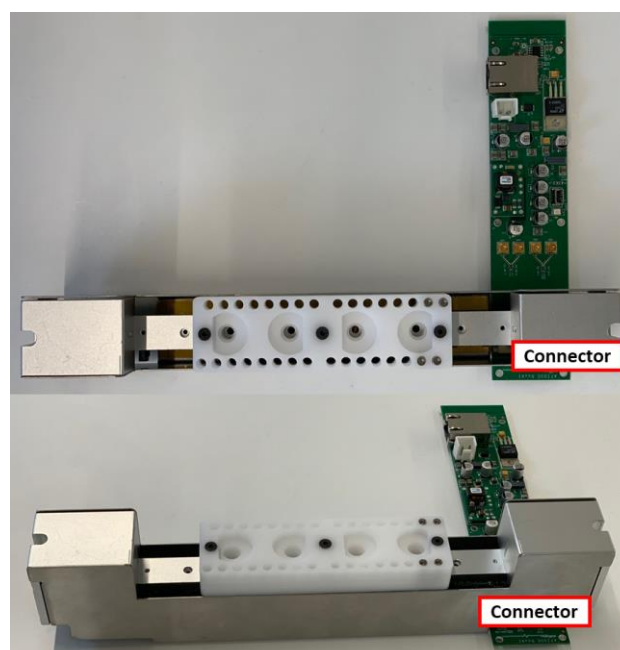

Figure 7: AT1000 & Instrument Orientation
4. Always insert the instrument with caution to avoid breaking any connector. Refer to Figure 7 for better visualization on how to plug in the instrument.